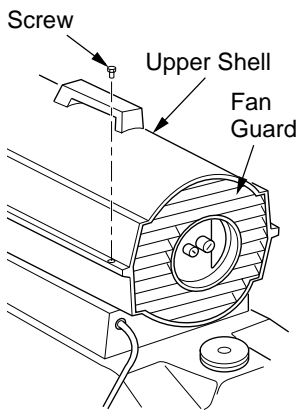

Figure 6 - Upper Shell Removal, 70,000 Btu Units
1. Remove screws along each side of heater using 5/16" nut-driver. These screws attach upper and lower shells together. See Figure 6 or 7.
1. Remove upper shell (see Figure 6 or 7).
7. Replace fan guard and upper shell (see Figure 6 or 7).